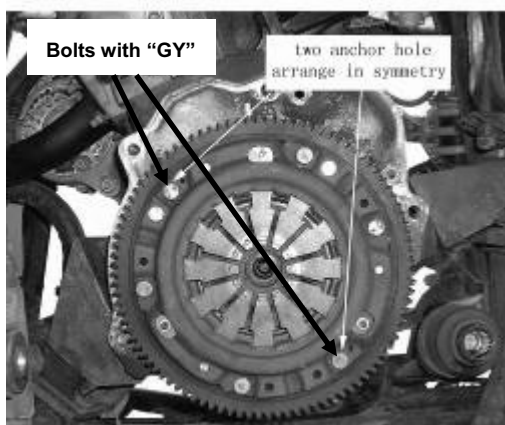
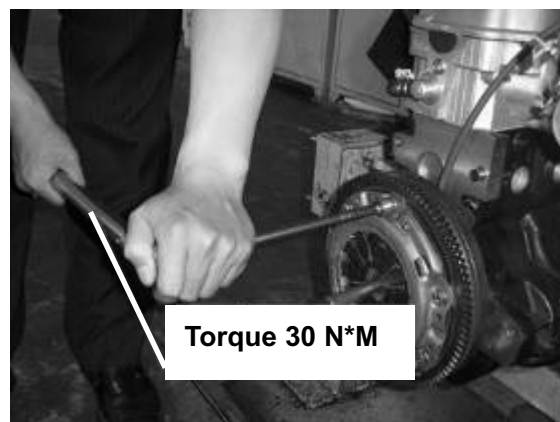

Figure 47
Figure 46
10. Fix pressure plate of clutch. Two bolts with "Y.G" mark must be inserted into two anchor holes. Tighten six bolts with torque 30 N.m (See Figure 46, Figure 47).